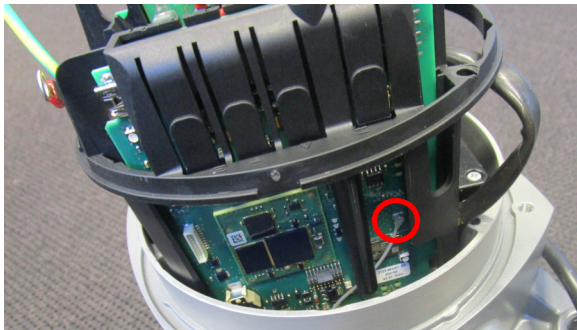

Figure 3: Antenna attached to the U.FL Connector on the Module
3. After integrating the module Z123.664 and Z135.074, the 120 mm antenna cable must be connected to the U.FL Connector on the module and the complete plastic carrier is pushed in a metal housing (see Figure 3)